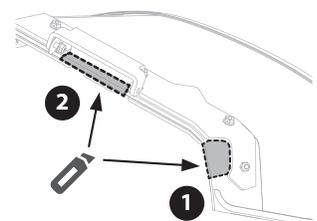

Figure 4
1. Cut discharge chute as shown in Figure 4.